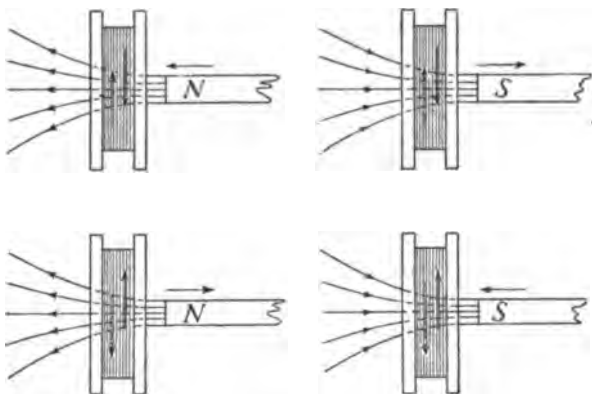

FIG. 283.—The induced current has a field which opposes the motion of the magnet. The heavy line represents the direction of the induced current.
*opposes the motion.* Lenz's Law follows from the principle of conservation of energy, that energy can be produced only from an expenditure of other energy. Now since an electric current possesses energy, such a current can be produced only by doing mechanical work or by expending some other form of energy. To illustrate Lenz's Law, suppose that the north-seeking pole of a bar magnet be inserted in a closed coil of wire. (See Fig. 283.) The current induced in the coil has a direction such that its lines